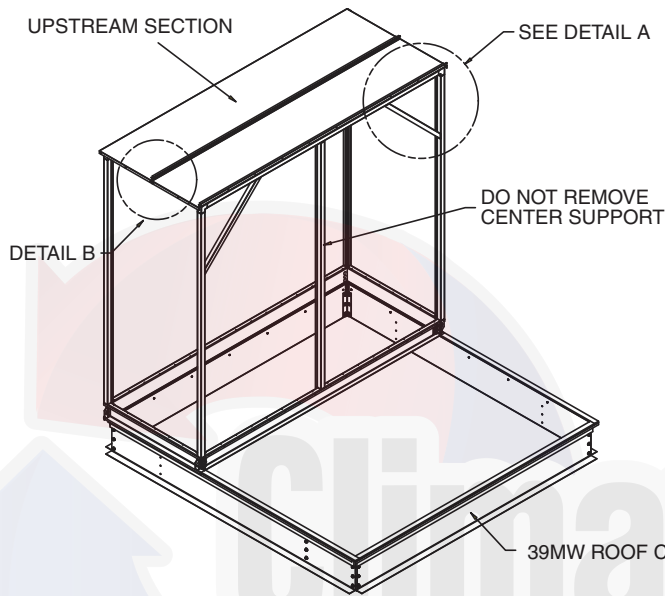

Fig. 26 — 39MW Split Assembly
12. For outdoor units, assemble all roof brackets provided and caulk roof corners as shown in Fig. 26, Detail B. Also caulk (using black or grey polyurethane adhesive sealant such as Black Sikaflex 221 or Silaprene Solid Seal) over the field section joint seals from top to bottom on the outside of each field joint to ensure seal integrity.